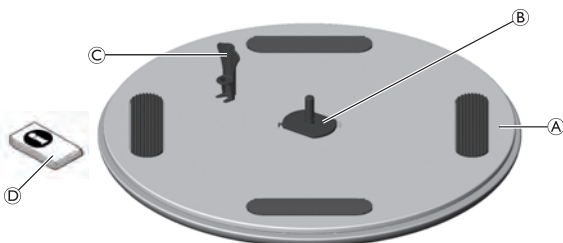

Fig. 1
1.3 Scope of delivery (Fig. 1)
I.2 Lieferumfang (Abb. 1)